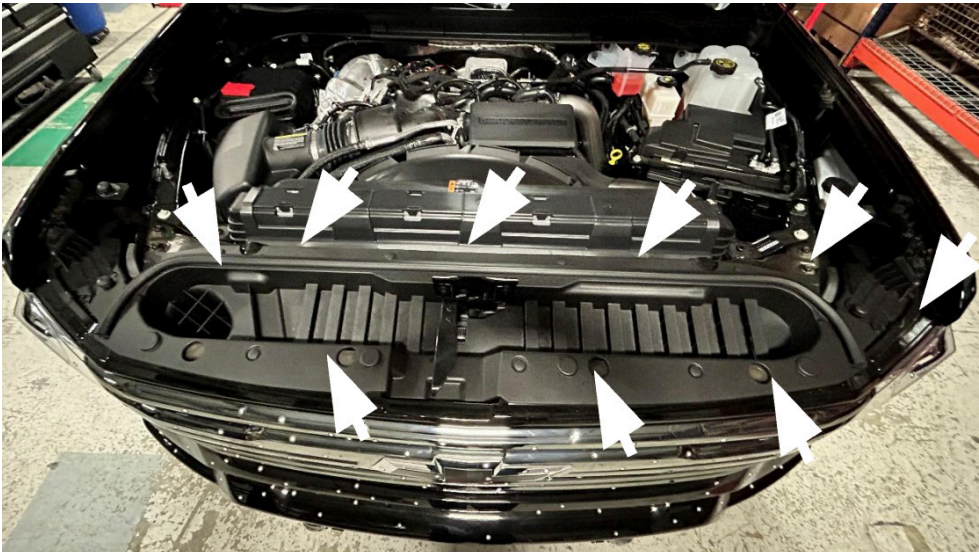

Figure 2
2. Using a panel pry tool, remove the nine (9) push pins retaining the under-hood cowl. Figure 2